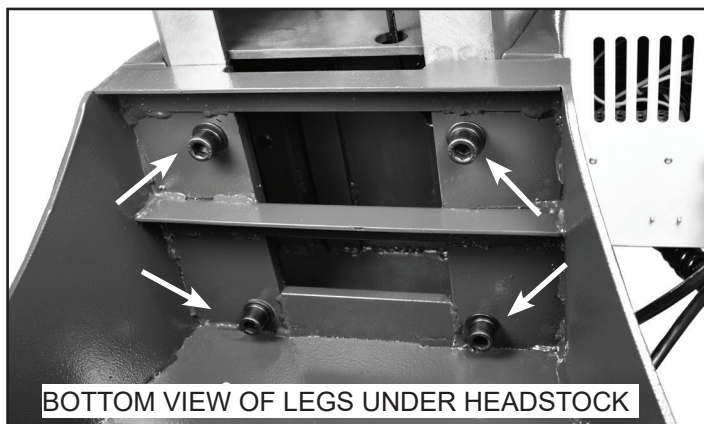

FIG. 6
4. Secure the lathe bed to the stand legs with the eight Washers (I, F2), Spring Lock Washers (F3) and Hex Head Bolts (F4). Figure 6 shows 4 bolts securing the legs to the headstock end of the lathe.